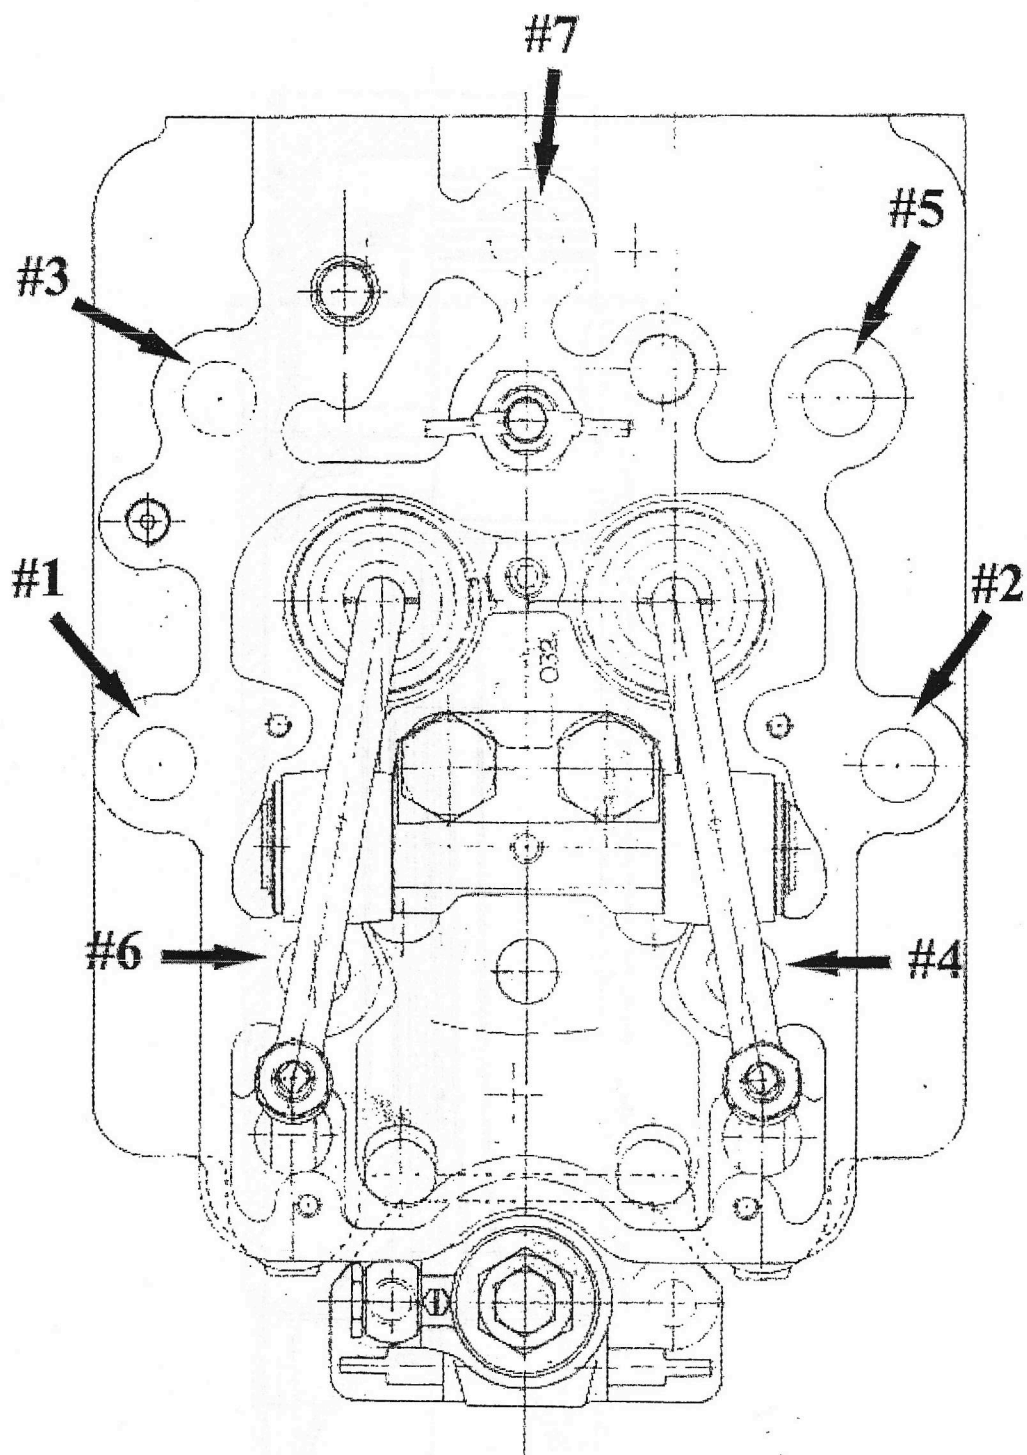

FIGURE 4
2. Install cylinder head. Follow pattern in *figure 4*